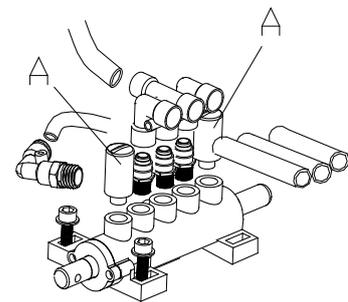

Fig 23
2. Loosen the valve mufflers (A) which belong to Jaws open and close Pedal and Bead Breaker Pedal; **(Fig 23)**
3. Clean the mufflers with compressed air, please replace it referring to the spare parts list if it is damaged. **(Fig 23)**